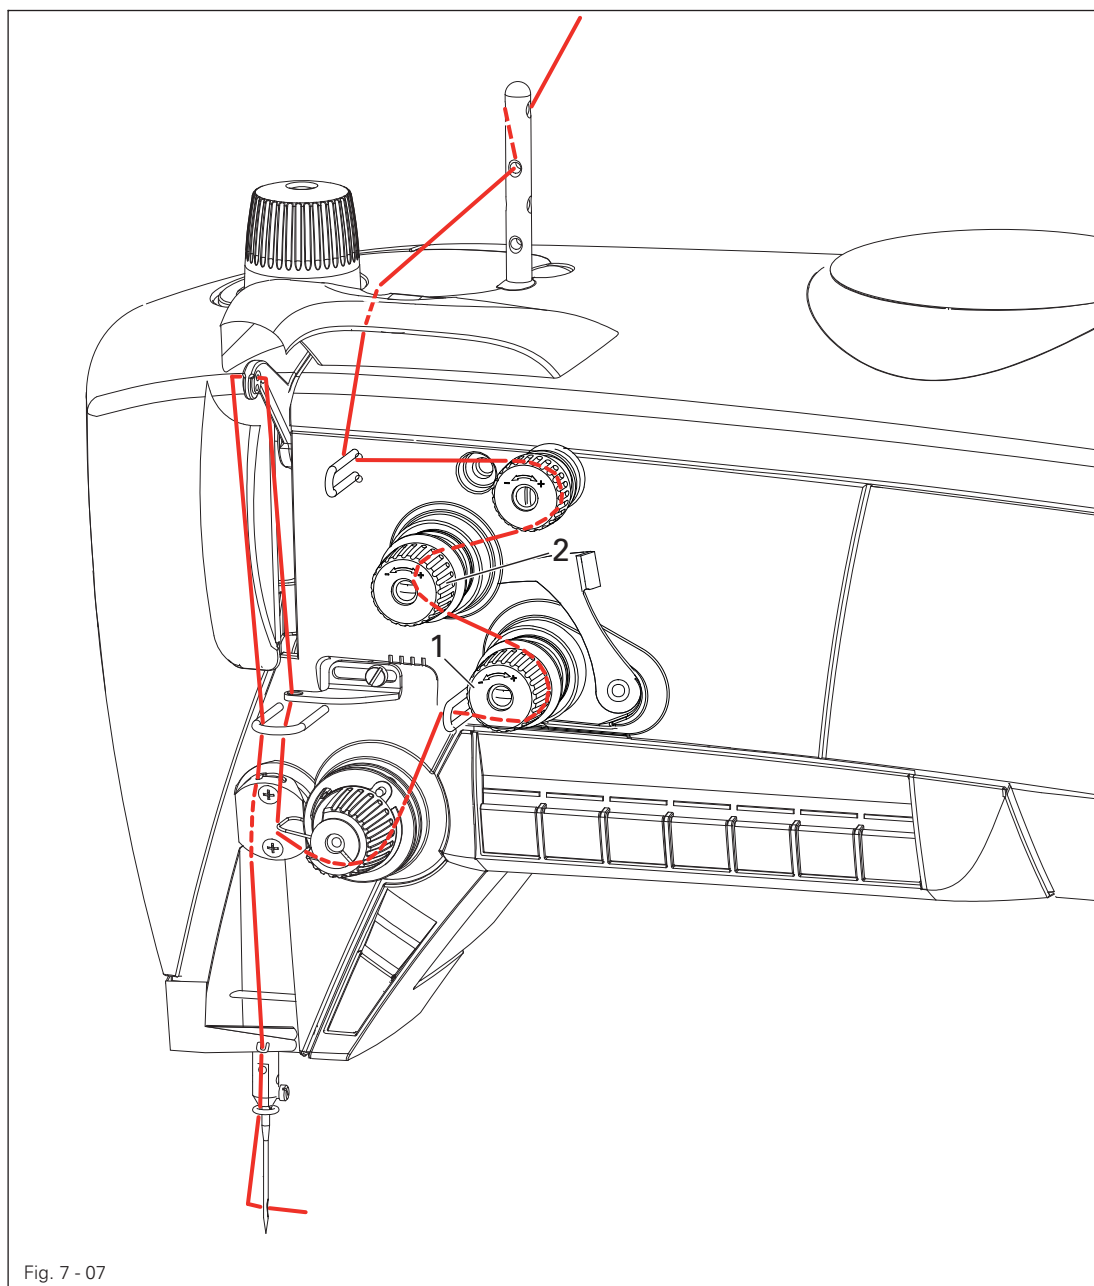

Fig. 7 - 07
- Thread the needle thread as shown in Fig. 7 - 07.
● Thread the needle thread as shown in Fig. 7 - 08.